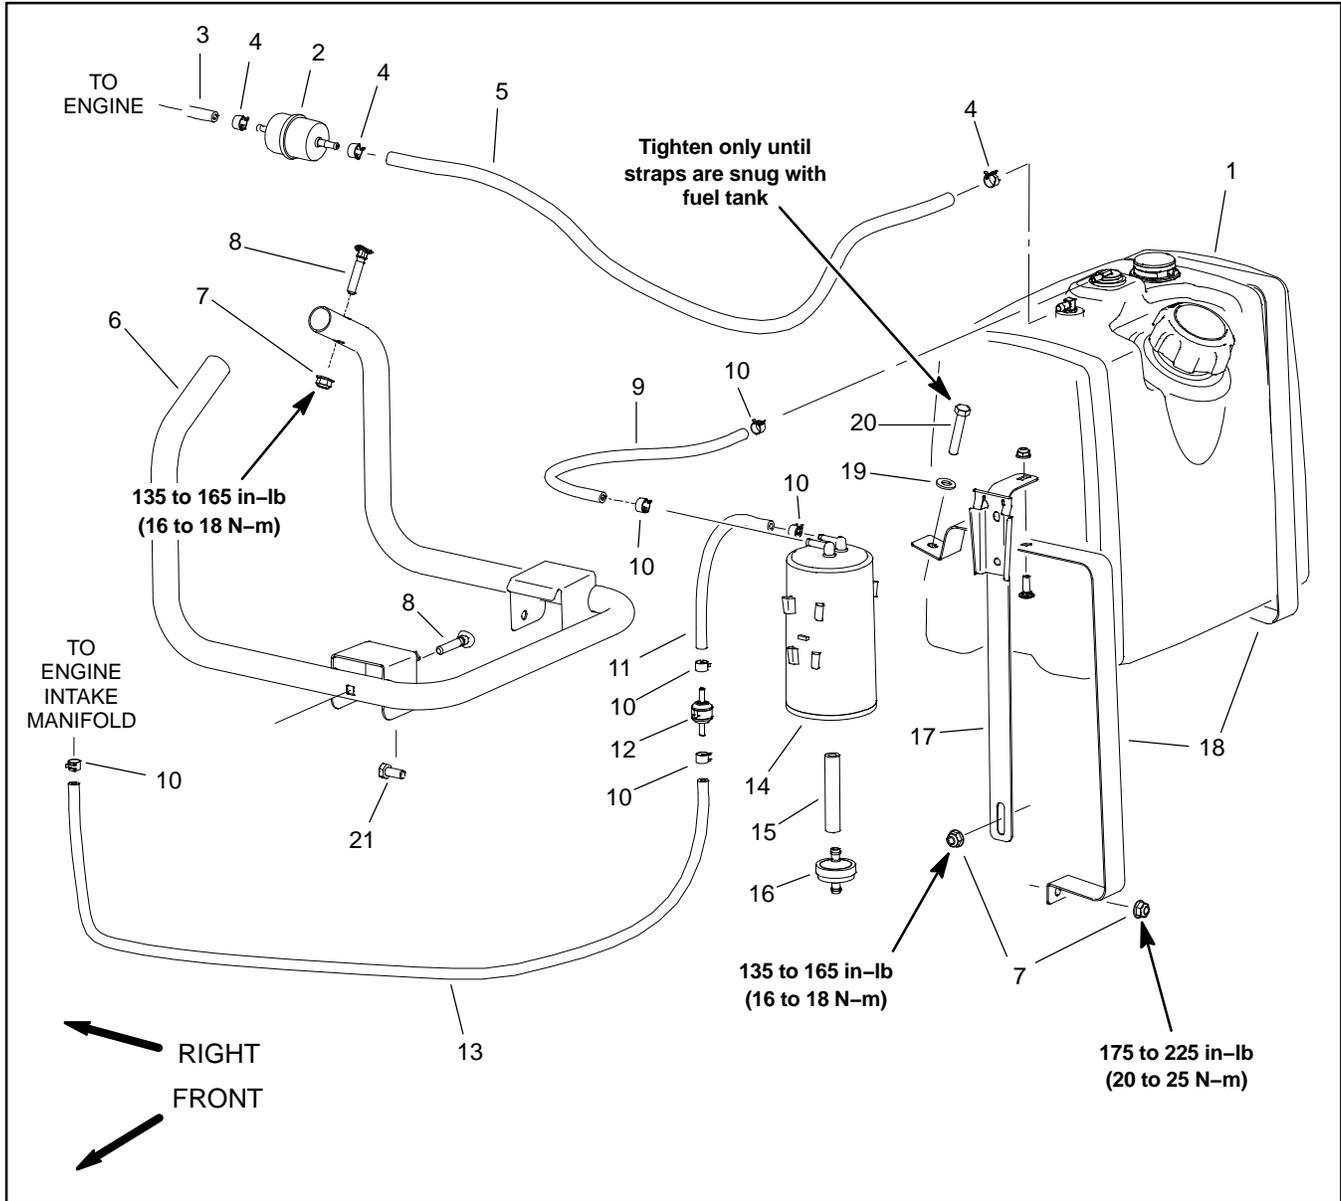

Figure 7
### Fuel Tank Removal (Fig. 7)
### Fuel Tank Installation (Fig. 7)
3. Replace fuel evaporative control system components as needed (Fig. 7 and 9). Note hose routing and location of clamps and cable ties.